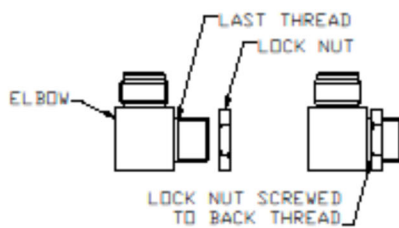

FIGURE 3
5. Screw 9146-92 lock nut on elbow to last thread. SEE FIGURE 3